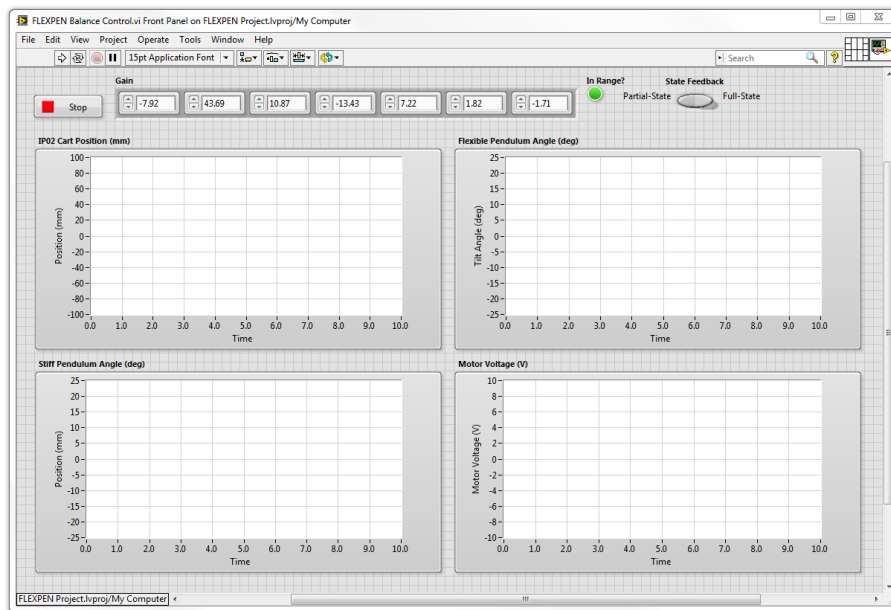

Figure 3.3: VI used to run controller on the FLEXPEN.
The *FLEXPEN Balance Control VI* shown in Figure 3.3 is used to perform the balance control on the FLEXPEN. The VI contains *Quanser Rapid Control Prototyping Toolkit*® blocks that interface with the dc motor and sensors of the FLEXPEN system.
3. Open the *FLEXPEN Balance Control.vi*, shown in Figure 3.3.